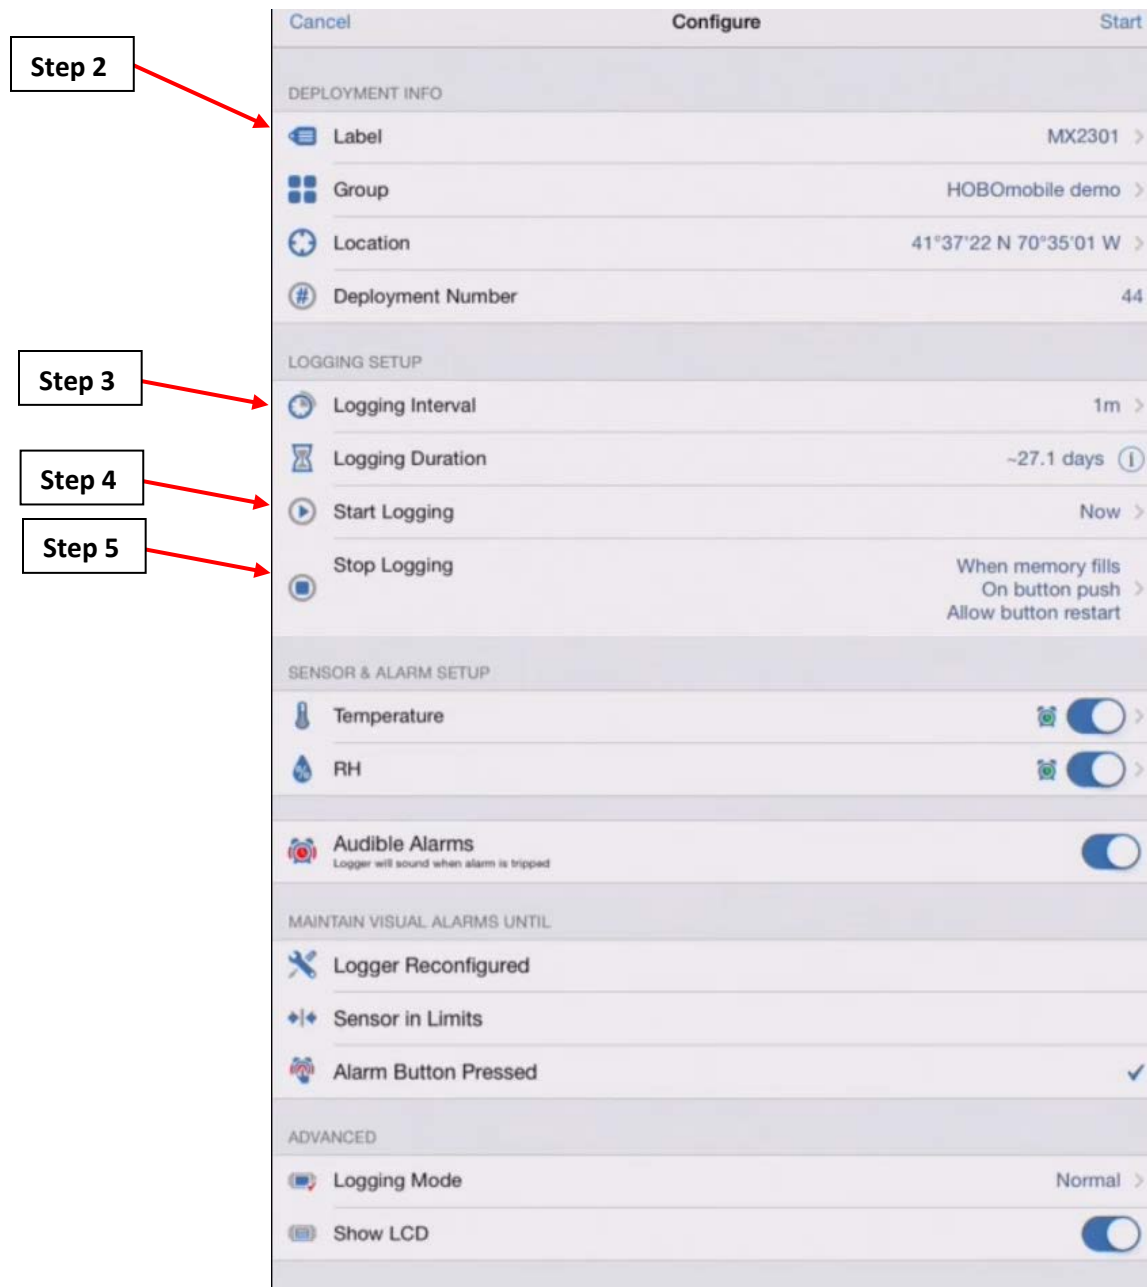
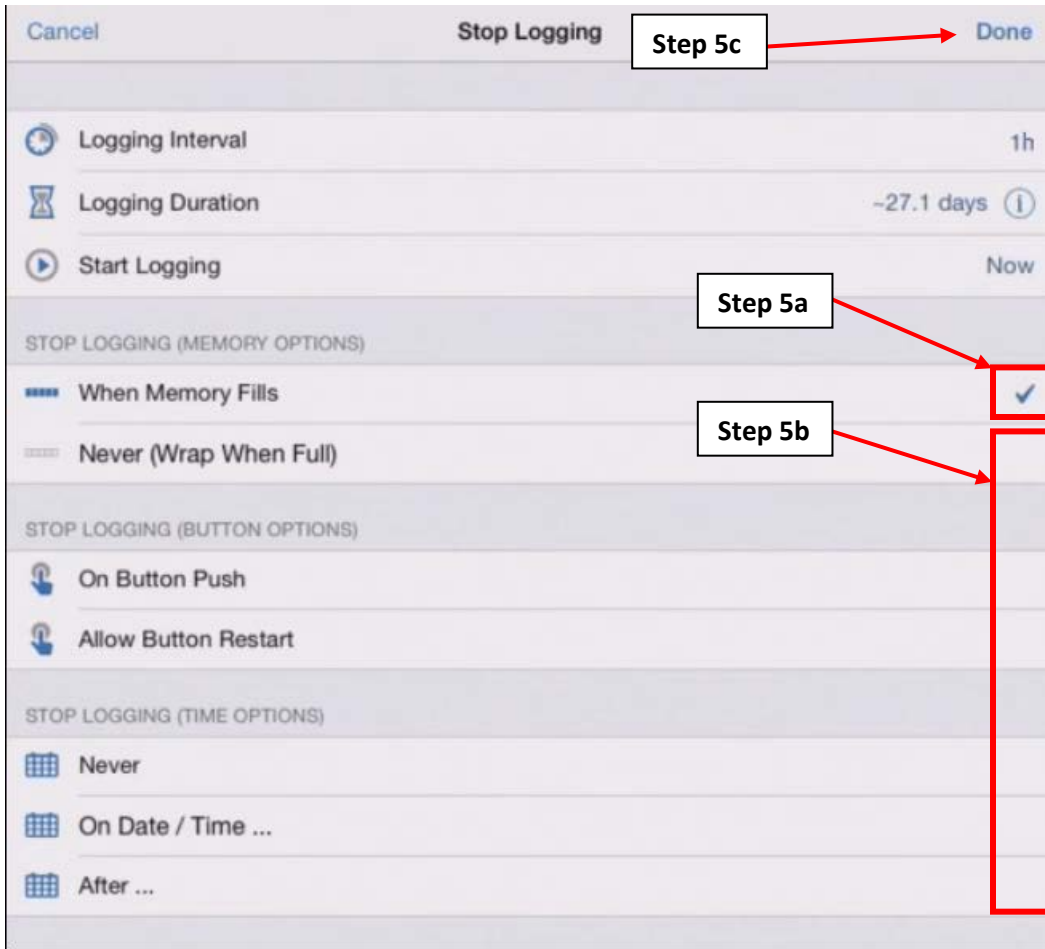

Figure A.7.4: HOBOMobile "Configure" screen.
Figure A.7.9: The "Stop Logging" screen.
The following steps will guide you on which settings to choose in the "Configure" screen shown on Figure A.7.4.
5. Select the “Stop Logging” option (Figure A.7.4) to go to the “Stop Logging” screen as shown on Figure A.7.9.